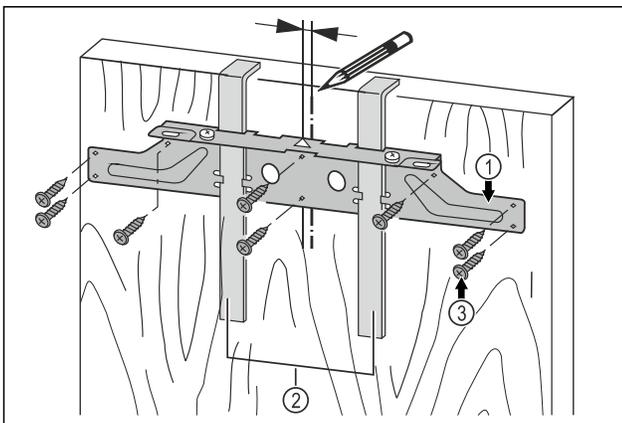

Fig. 43
- ▶ Align the fastening crossbeam Fig. 43 (1) in the center of the door.
- ▶ Left piping: Move the fastening crossbeam Fig. 43 (1) 6 mm (1/4 in) to the left.
- ▶ Right piping: Move the fastening crossbeam Fig. 43 (1) 6 mm (1/4 in) to the right.